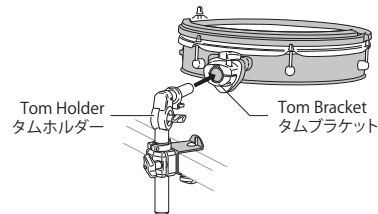

Fig.22
2. Attach the Toms to the Tom Holders and position the height and angles to your preference. When done, set the tab on the Stop Lock into the slot on the Pipe Clamp and Tom Holder Bracket. Then tighten the Key-Bolts with the provided Drum Key to retain the setting (Fig.22).
タムホルダーの位置と角度を調整します (Fig.22)。